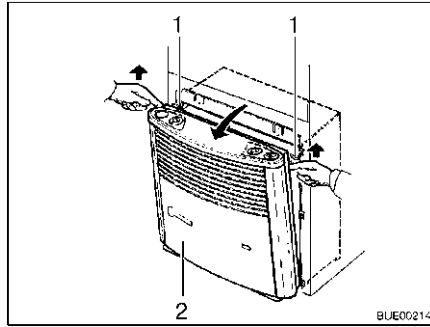

Fig. 109 Removing heater cover
- Remove heater cover (Fig. 109,2). Pull the heater cover upwards and forwards, press up the retaining springs (Fig. 109,1) to the side and tip the cover forwards.